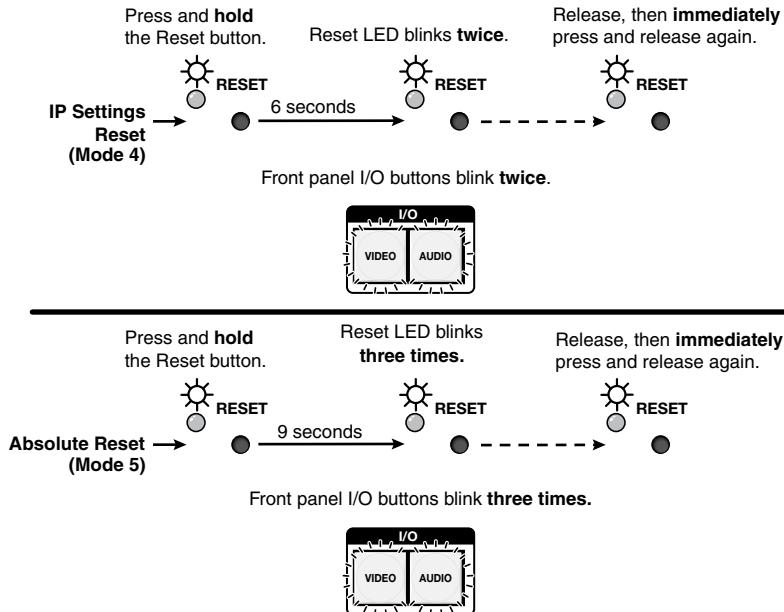

Figure 28. Soft System Resets
1. Use a small screwdriver to press and **hold** the rear panel **Reset** button until the **Reset** LED and the front panel **Video** and **Audio** buttons blink the number of times for the desired reset: twice (IP settings reset) or three times (absolute reset) (see figure 28).